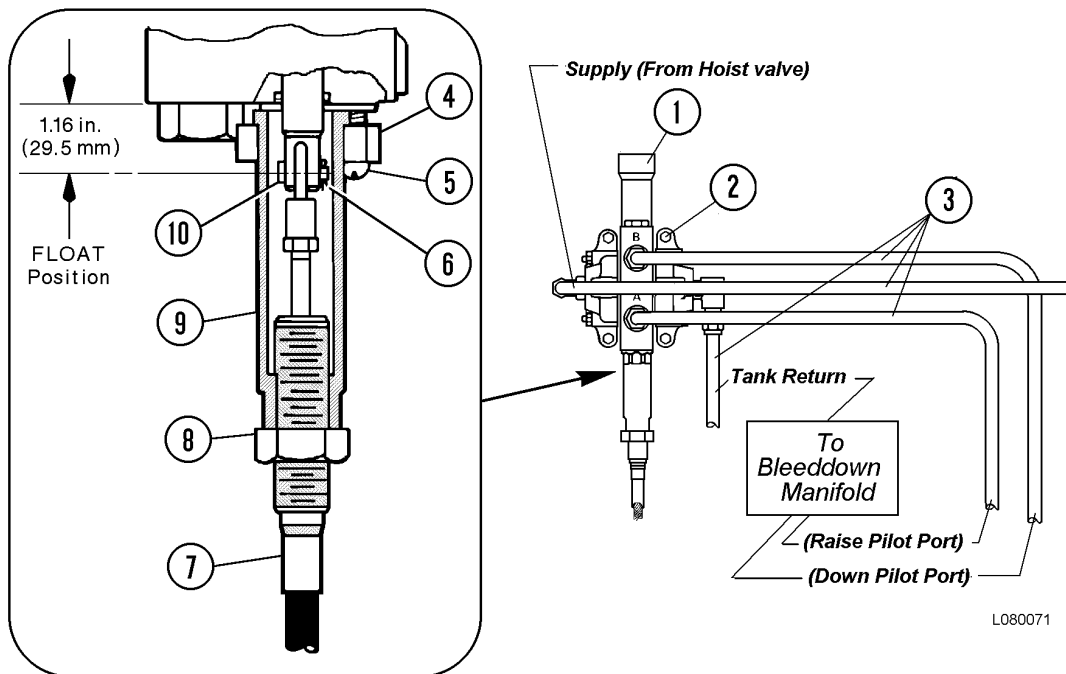

FIGURE 8-12. HOIST PILOT VALVE & PIPING
2. Disconnect hydraulic lines (3, Figure 8-12) at hoist pilot valve (1) located in the hydraulic components cabinet at the rear of the cab. Remove capscrews (5).
3. Loosen and unthread jam nut (8). Unthread sleeve (9) until cotter pin (6) and pin (10) are exposed.
5. Remove hoist pilot valve mounting hardware (2), and remove the valve from the cabinet. Refer to the hoist pilot valve disassembly procedure for repair instructions.
1. Place hoist pilot valve (1, Figure 8-12) into position on the mounting bracket. Secure the valve in place with mounting hardware (2).
2. Position hydraulic lines (3) over the valve ports and assemble the fittings. Tighten the hydraulic line connections securely.
4. Align the control cable eye with the pilot valve spool hole and insert pin (10). Secure the pin in place with cotter pin (6).
5. Thread sleeve (9) upward until contact is made with the valve body. Move flange (4) into position and secure it in place with capscrews (5).
6. Thread jam nut (8) against the sleeve. Tighten the jam nut securely.